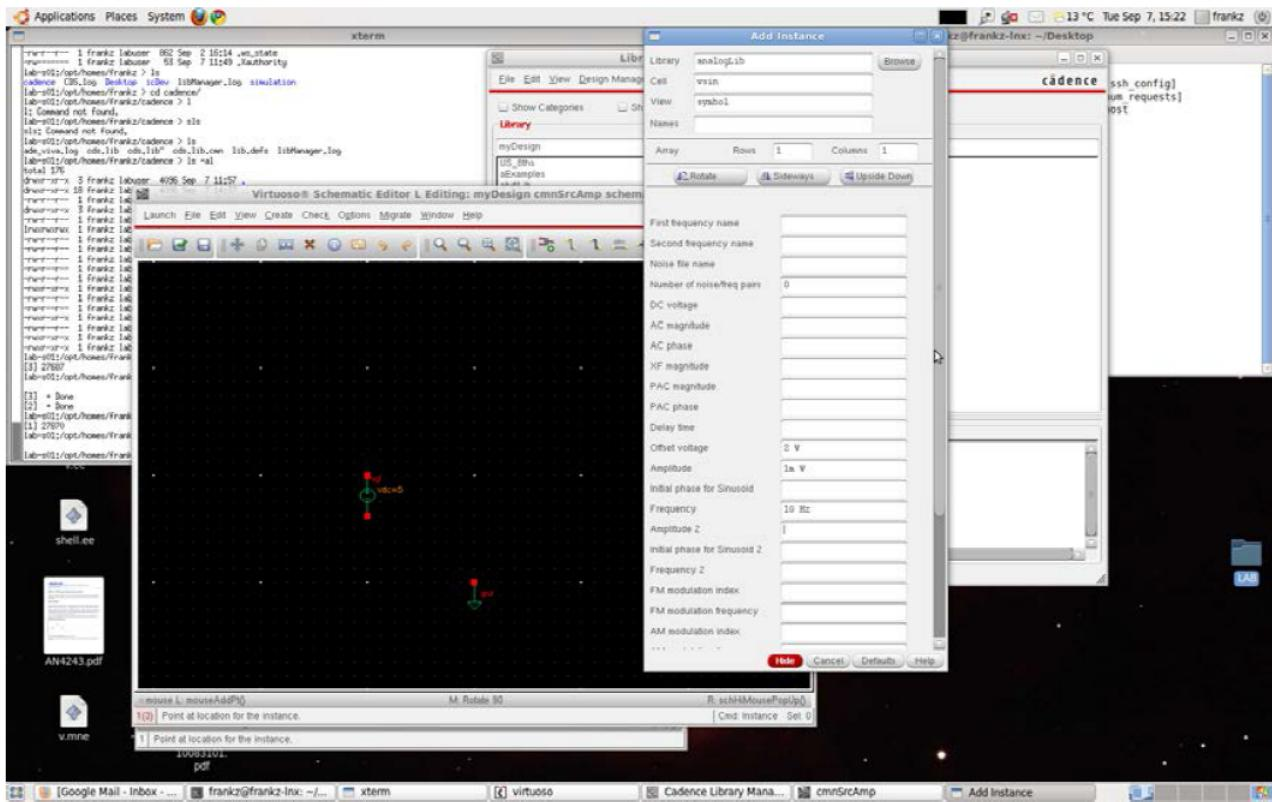

Figure 7: Adding the voltage source "vsin"
- Step 7: Add a AC voltage source - follow steps 1-3 to add "vsin" object from the analogLib library as shown in Figure 7. Fill out the parameters, offset voltage, amplitude, and the frequency as per Figure 7. Click on the schematic window to place the component.